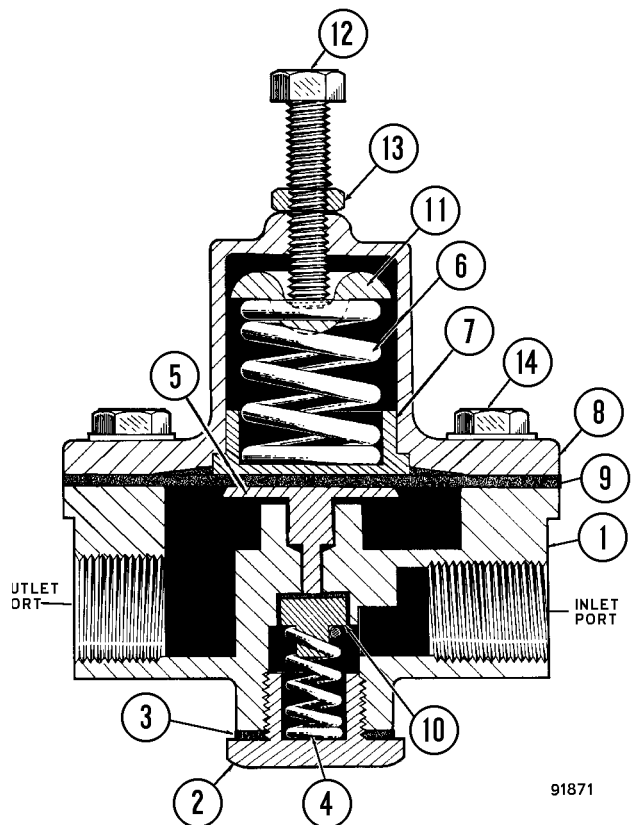

FIGURE 3-5. 90 PSI (622 KpA) REGULATING VALVE
2. Loosen jam nut (13, Figure 3-5) and remove adjusting screw (12).
3. Remove screws (14) and lift off bonnet (8).
4. Remove spring button (11) spring (6).
5. Remove diaphragm (9) and plate (5).
6. Remove cap (6), washer (3), spring (4), and poppet (10).
1. Install poppet (10, Figure 3-5) and spring (4) in bore of body (1).
2. Install cap (2) with gasket (3) and tighten.
3. Place diaphragm plate (5) in body as shown.
4. Lay diaphragm (9) on top of diaphragm plate and body assembly.
5. Place spring (6) and button (11) on top of diaphragm. Install bonnet (8) and secure in place with screws (14).
6. Install adjusting screw (12) with jam nut (13). Do not tighten adjusting screw at this time. Refer to "Adjustment".
4. Pressure should be 90 ± 5 psi (622 ± 34 kPa). If not, rotate the adjusting screw (12, Figure 3-5) clockwise to increase pressure, or counterclockwise to reduce pressure. Hold adjusting screw and tighten jam nut (13).